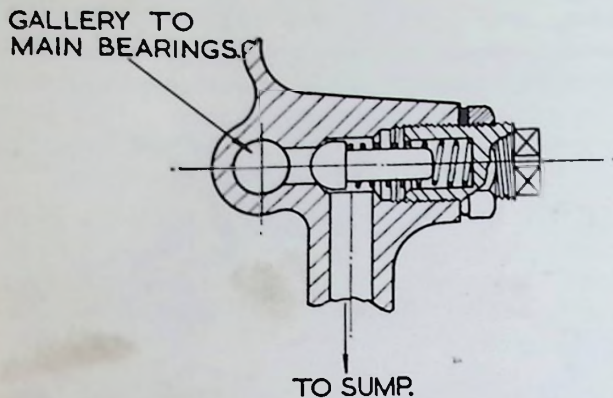

Fig. 17. Section through Oil Pressure Release Valve.
- (1) The level of the oil in the sump may not be correct, or the grade of oil not as recommended. A list of recommended lubricants is given on page M7. As to the oil level, this can be checked by means of the dipstick. Replenish as necessary.
- (2) The oil pressure gauge may not be reading accurately. Check by fitting one known to be correct.
- (3) Dirt or foreign matter may be preventing the pressure release valve, situated in the main gallery (see Fig. 17) from working correctly. To clean, release the locknut just sufficiently to allow the central plug to be unscrewed. Avoid altering the position on the nut unnecessarily, for the position of the nut on the plug is an indication of how far the plug must be screwed in for the pressure to be approximately correct. Completely detach the plug from the cylinder block, remove the spring and plunger. Clean all parts including the bore in the cylinder block and the seat with petrol, and reassemble, first the plunger, then the spring, and lastly the plug which should be screwed up to the locknut which should now be tightened. If the pressure is low, release the lock nut, and screw the plug "in" until the correct pressure of 30/35 lbs. per square inch at 30/35 miles per hour is registered. To lower the pressure screw "out" the plug appro-